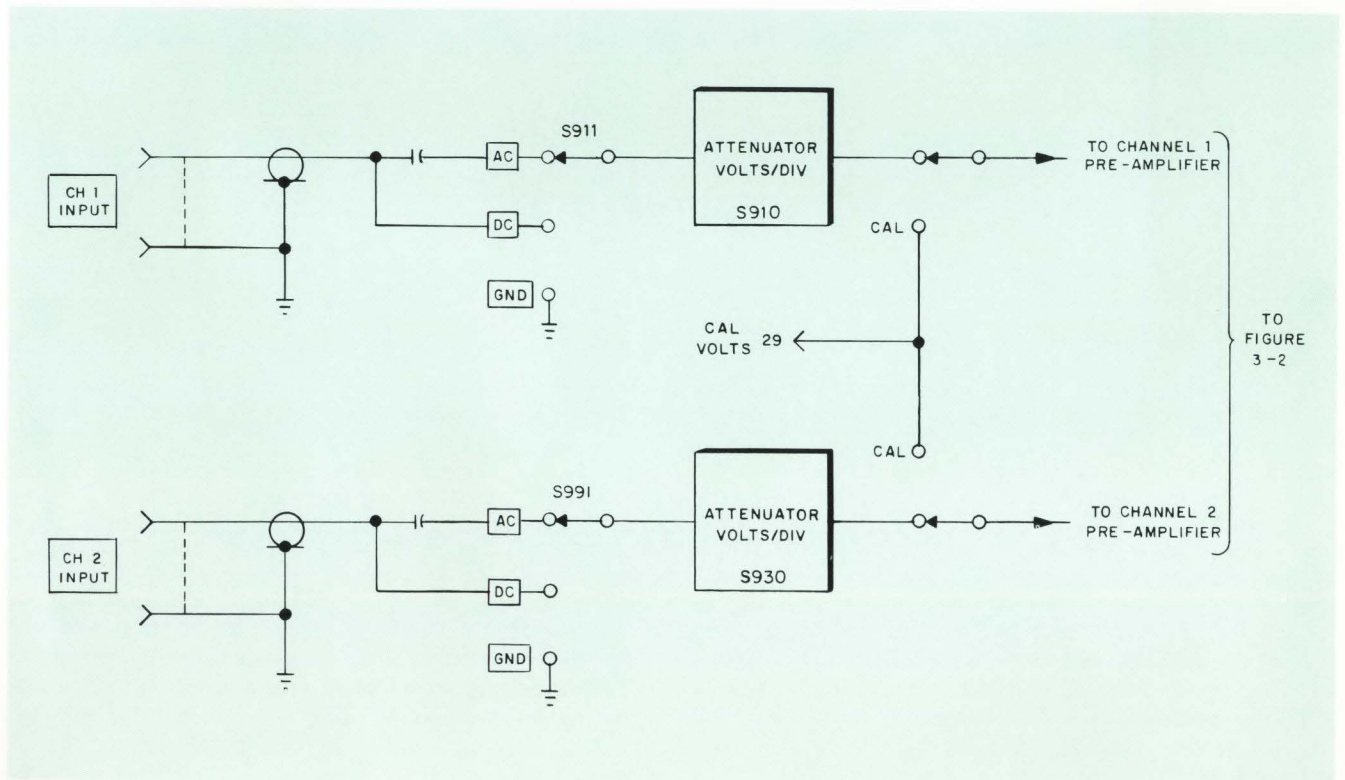

Figure 3-1. Type 76-08 Input Circuit, Simplified Functional Block Diagram
- Figure 3-1. Type 76-08 Input Circuit, Simplified Functional Block Diagram
a. Input Channel (Figure 3-1)